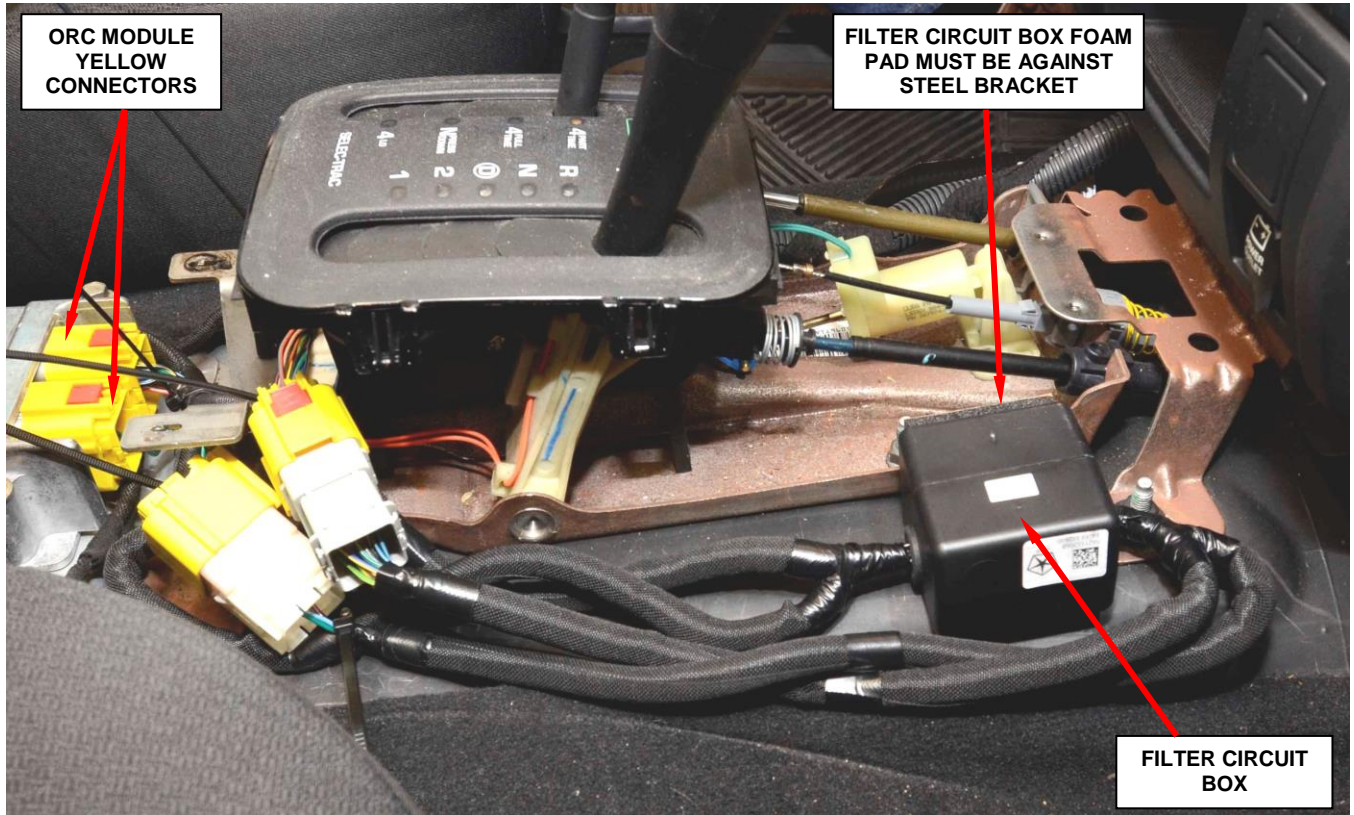

Figure 20 – Filter Circuit Wire Routing
9. Route the new filter circuit wire harness and filter circuit box as shown in figure 20 and install tie straps to secure the harness.